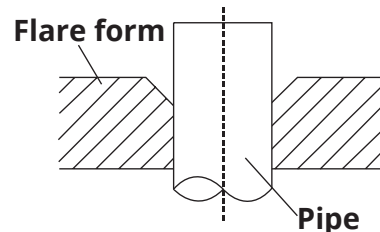

Fig. 6.5
5. Clamp the flare form on the end of the pipe to be flared. The end of the pipe must extend beyond the flare form. Please refer to **Fig. 6.5** below.